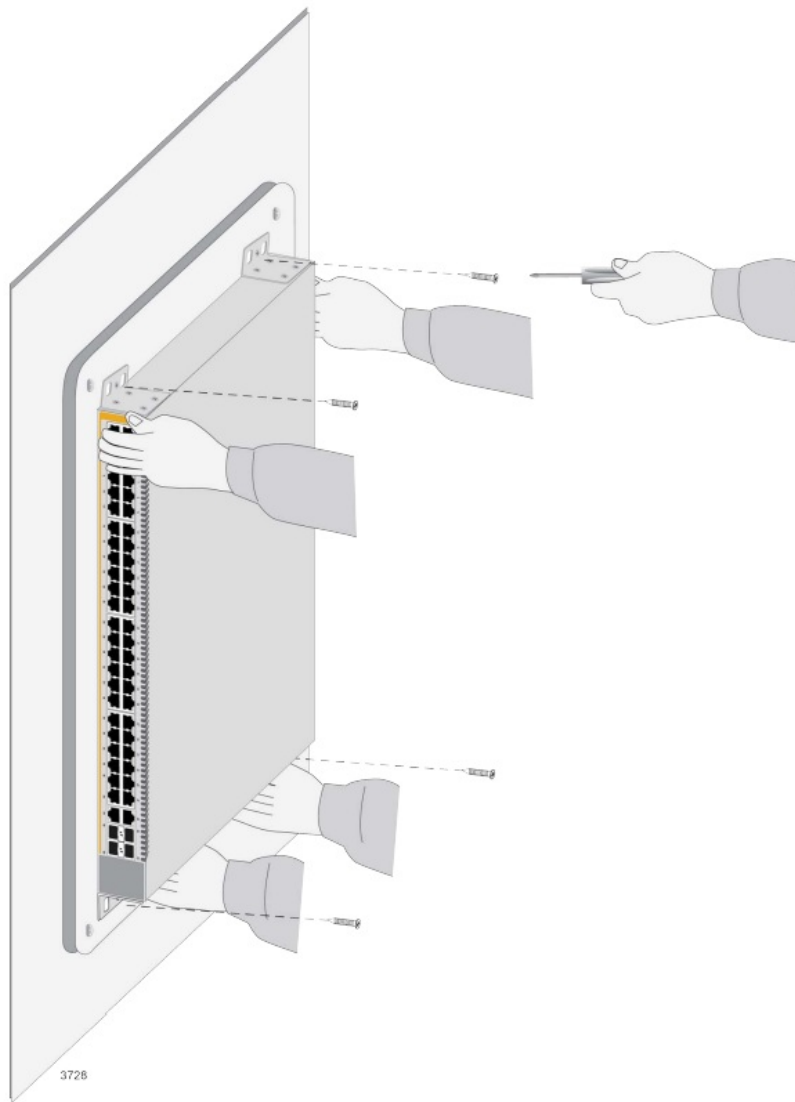

Figure 50. Securing the Switch to the Plywood Base
3. After attaching the brackets to the side of the switch, have two people hold the switch on the plywood base on the wall while you secure it with the four provided screws. Refer to Figure 50 on page 106.